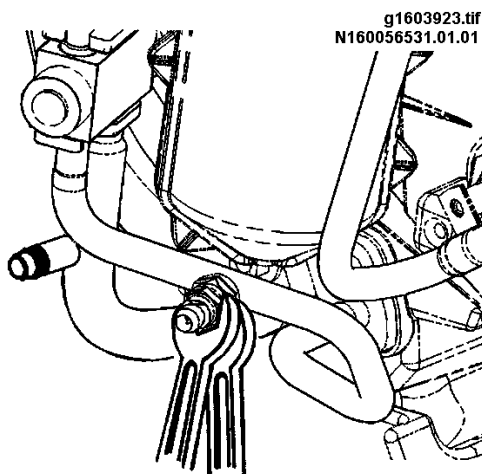

Figure 62 Use a Back-Up Wrench When Loosening or Tightening Fittings
10. Whenever possible use a backup wrench when loosening or tightening fittings (Figure 62).